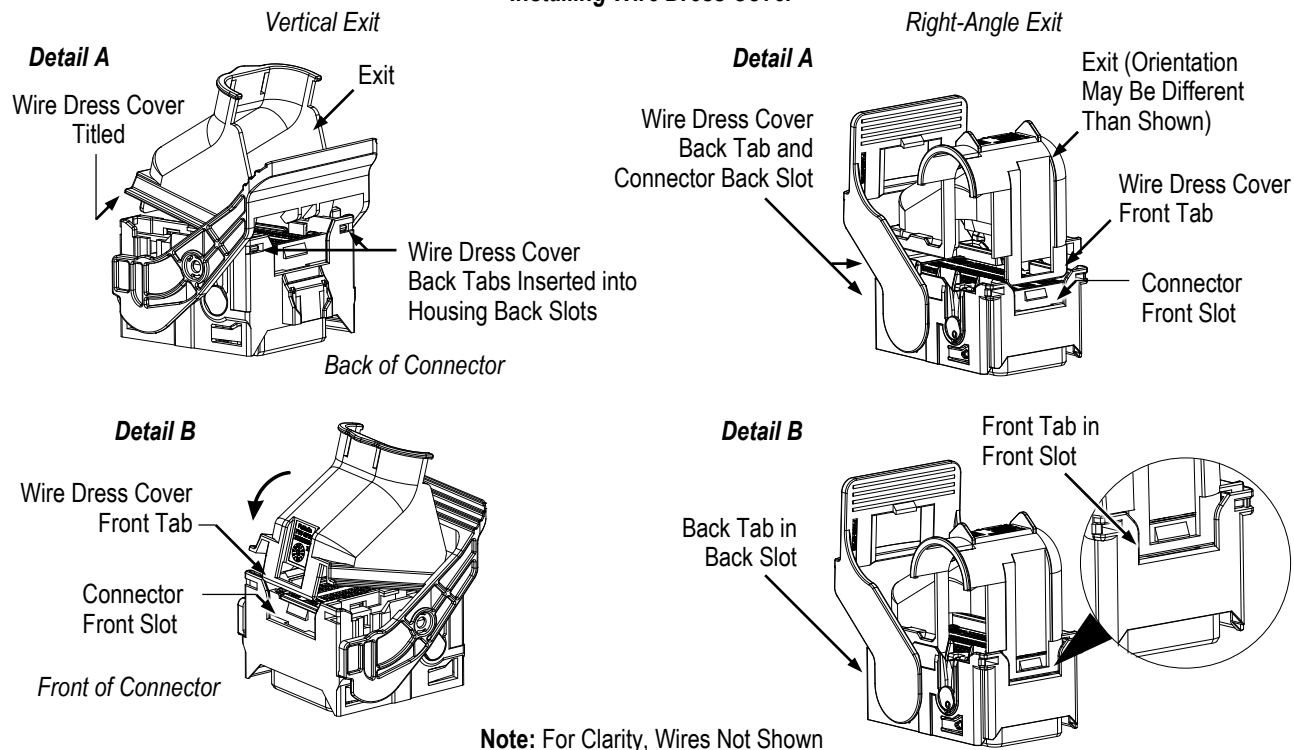

Figure 4
1. Position the wire dress cover over the wire end of the connector so that the back tabs align with the housing back slots. Bundle the wires in the exit. Refer to Figure 4, Detail A.
2. Tilt the wire dress cover slightly, and insert the back tabs into the housing back slots as shown in Figure 4, Detail A.
3. Rotate the wire dress cover until the front tab enters the connector front slot and there is an audible click. Confirm that the back tabs are secure in the back slots. See Figure 4, Detail B.
1. Position the wire dress cover over the wire end of the connector so that the front tab aligns with the connector front slot and the back tab aligns with the connector back slot. Bundle the wires in the exit. Refer to Figure 4, Detail A.
2. Evenly press the wire dress cover onto the connector until the front tab enters the front slot, the back tab enters the back slot, and there is an audible click from each. See Figure 4, Detail B.
1. Insert the tip of a screwdriver between the wire dress cover front tab and connector front slot (shown in Figure 4), then rotate the screwdriver until the tab releases from the slot.